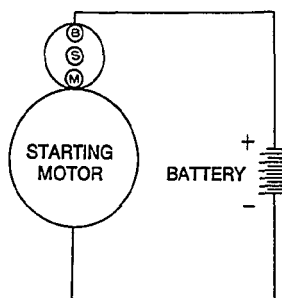
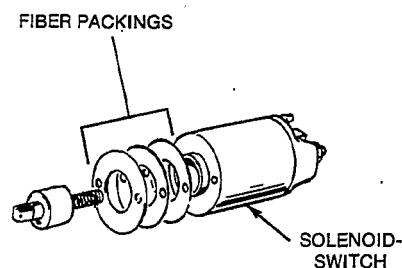

FIGURE 50. BATTERY CONNECTIONS
FIGURE 51. ADJUSTING PINION CLEARANCE
2. To adjust pinion clearance, connect the battery to the starting motor as shown in Figure 50. This will allow the pinion of the starting motor to slide and stop. In this state, measure the clearance between the end of the pinion and pinion stop when the pinion is pushed lightly toward the commutator end. Clearance should be 0.02 to 0.06 inch (0.51 to 1.52 mm). Adjust for proper clearance by removing the solenoid switch attaching screws and select the proper thickness of the fiber packings shown in Figure 51.